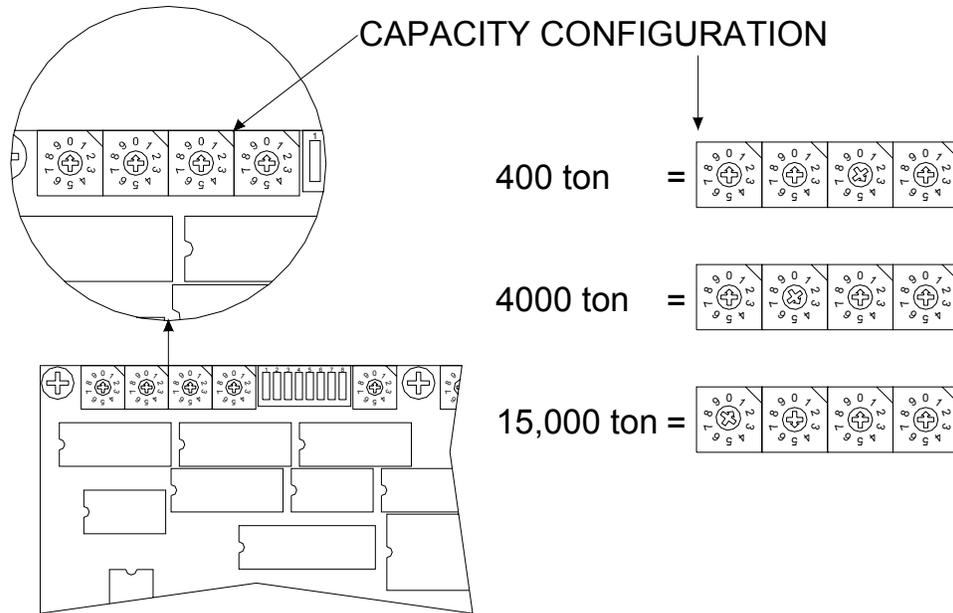

Figure 2.3: Capacity Configuration
- Set the switches to the desired setting as shown in Figure 2.3 above.